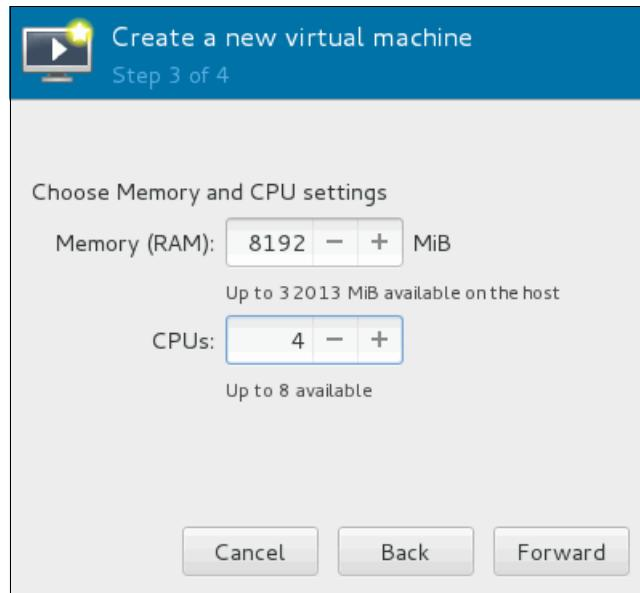

Figure 3-49 Memory and CPUs selection
9. Specify the memory size and number of CPUs (Figure 3-49).